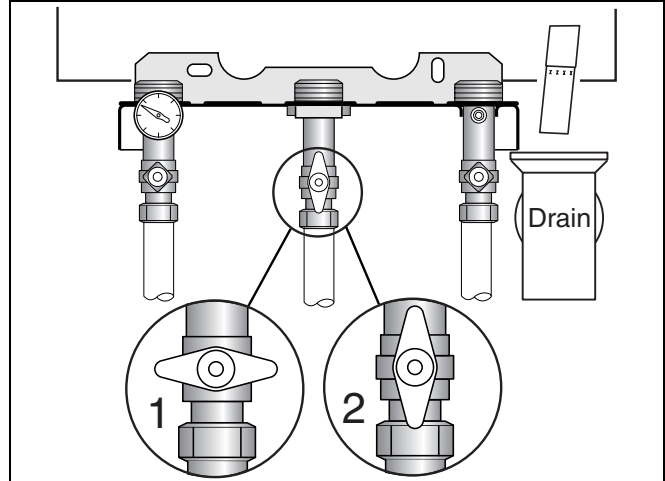

fig. 52 Gas valve
- Close the gas shut off valve (fig. 52, item 1).
- Slowly open the gas shut off valve (fig. 52, item 2).
- Shut the gas shut off valve underneath the boiler (see fig. 52, item 1).
- Open the gas shut off valve (see fig. 52, item 2).
- Shut the gas shut off valve (see fig. 52, item 1).